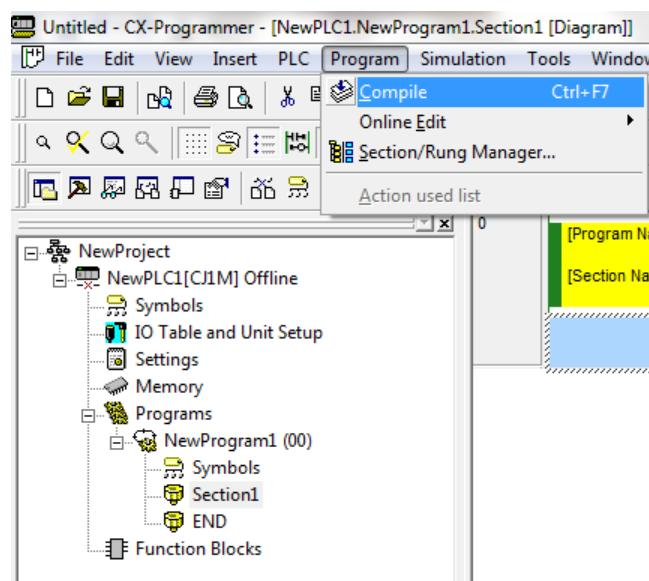
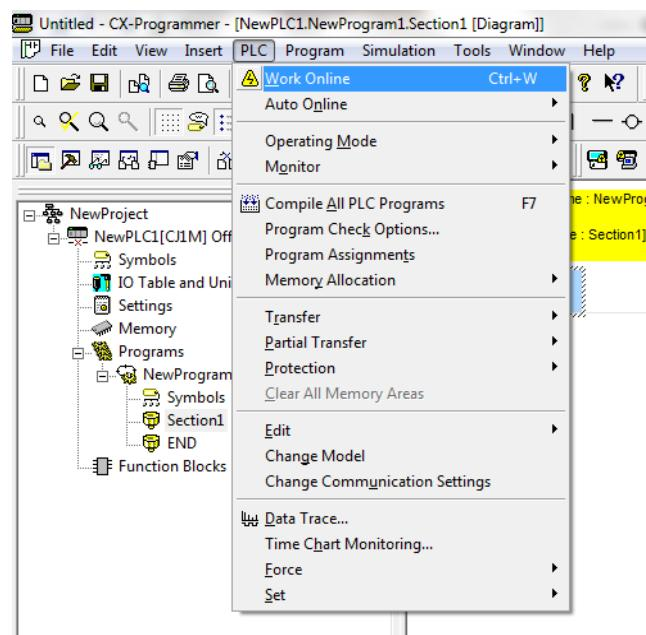

Figure 1.6 Compile program
Figure 1.7 Work Online
7. To **download** a program that has been created, **compile** your program in order to determine whether there exists an error or not in the program by clicking **Program Menu → Compile** or by pressing **Ctrl+F7**, see Figure 1.6. If no error appears , then make sure the CX-Programmer online with the PLC by clicking **PLC Menu → Work Online** or by pressing **Ctrl+W**, see figure 1.7.